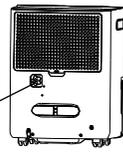
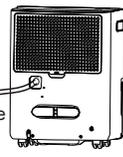

Fig. 9
Fig. 10
- Remove the plastic cover from the back drain outlet of the unit and set aside, then insert the drain hose through the drain outlet of the unit and lead the drain hose to the floor drain or a suitable drainage facility. (See Fig.9 and Fig.10)